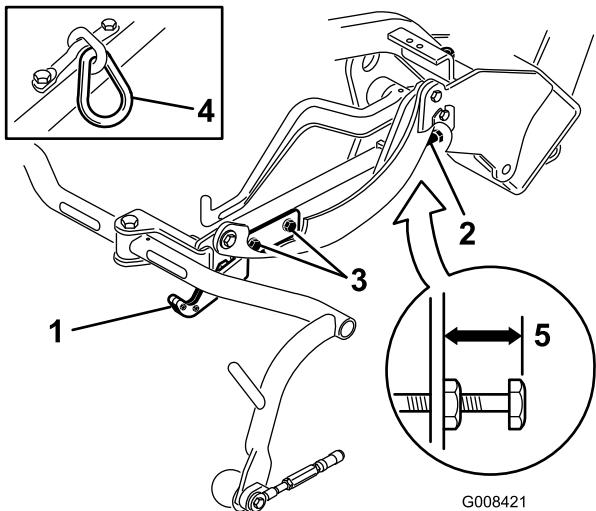
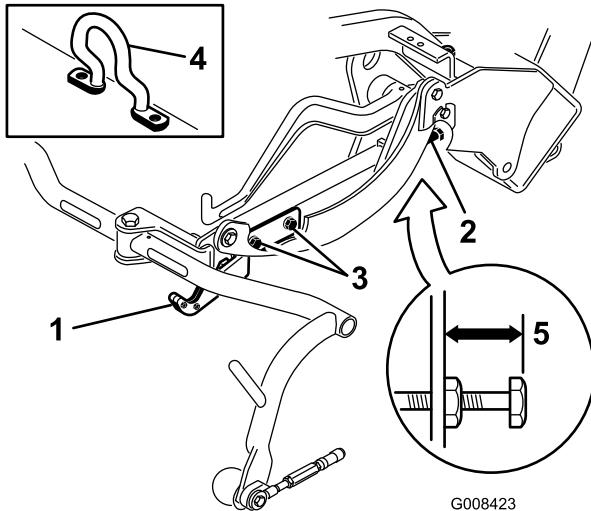
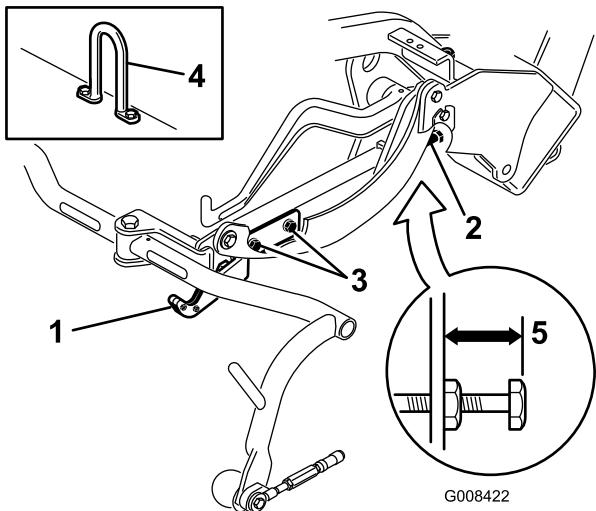

Figure 13
Figure 15
Figure 14
Check the transport height (Figure 13 & Figure 14) and adjust, if required.
2. On cutting units equipped with a chain link or a straight lift hook (Figure 13 & Figure 14, insets) verify that the distance from the top of the carrier frame adjusting screw to the back of the carrier frame is $7/8$ inch (22 mm). If the distance is not $7/8$ inch (22 mm), proceed to step 4. If the cutting unit is equipped with an offset lift link (Figure 15), proceed to the next step.
3. On cutting units equipped with a offset lift hook (Figure 15, inset) verify that the distance from the top of the carrier frame adjusting screw to the back of the carrier frame is 1 inch (25 mm). If the distance is not 1 inch (22 mm), proceed to step 4.
4. Loosen the transport plate mounting screws (Figure 13, Figure 14 and Figure 15).
7. If the carrier frames are not at the same height, loosen the jam nut on the carrier frame adjusting screw (Figure 13, Figure 14 and Figure 15). Rotate the screw outward to raise and inward to lower. Tighten the jam nut after the proper height is obtained.